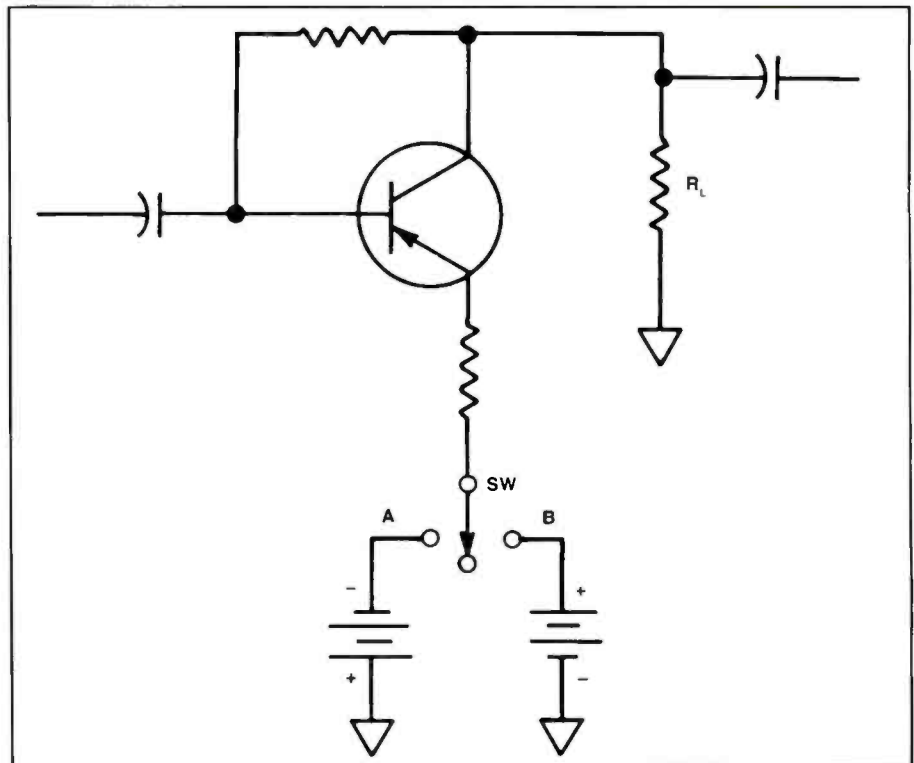

Figure 3. Should the switch be connected to A or B for proper operation of this circuit?
your calculation for R_{TH} should give you 75Ω . The values for V_{TH} and R_{TH} are shown in Figure 3.
3. In order for the transistor in the circuit in Figure 3 to operate properly the battery should be connected with